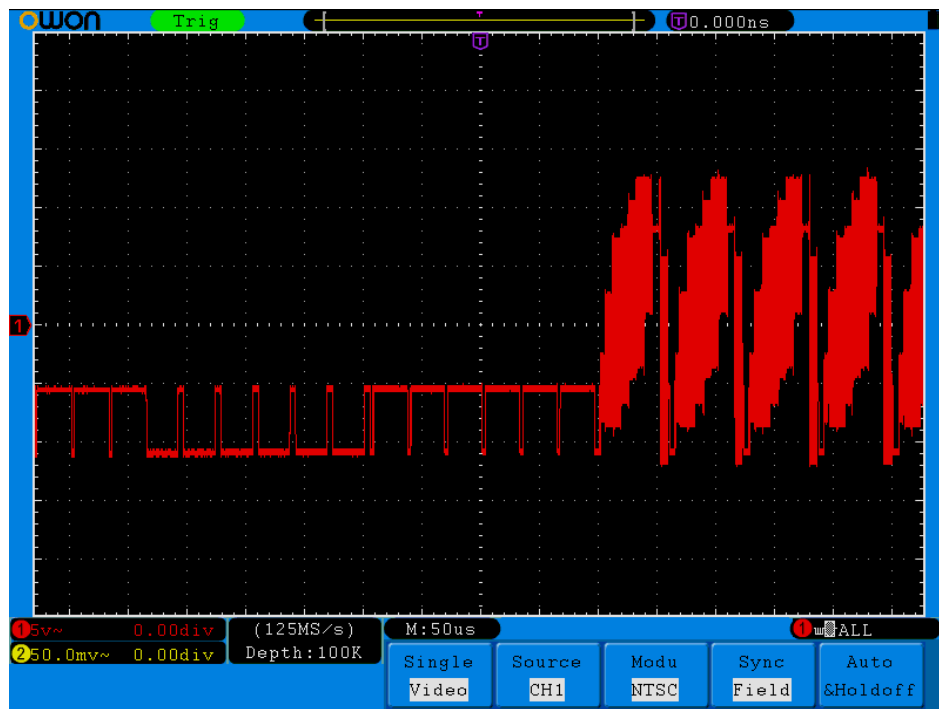

Fig.6-7 Waveform Obtained from Video Field Trigger
- (2) Press the **H1** button to display the trigger type menu.
- (3) Press the **F1** button to choose **Single** for Type.
- (4) Turn the **M** knob to choose **Video** as the mode.
- (5) Press the **H2** button to display the Source menu.
- (6) Press the **F1** button to choose **CH1** for Source.
- (7) Press the **H3** button to display the Modu menu.
- (8) Press the **F1** button to choose **NTSC** for the modulation.
- (9) Press the **H4** button to display the sync menu.
- (10) Press the **F2** button to choose **Field** for Sync.
- (11) Turn the **VOLTS/DIV**, **VERTICAL POSITION** and **SEC/DIV** knobs to obtain a proper waveform display (see **Fig.6-7**).